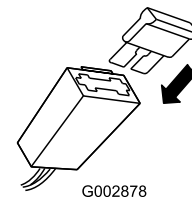

Figure 41
2. Install the fuse in the fuse holder (Figure 41).